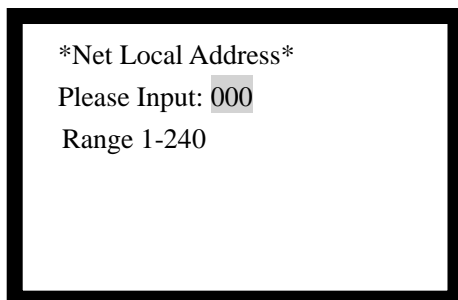

Fig. 6-44
- ◇ Set the panel's network address by entering number 1, as shown in Fig. 6-44. The address can be set to any number between 1 and 240.